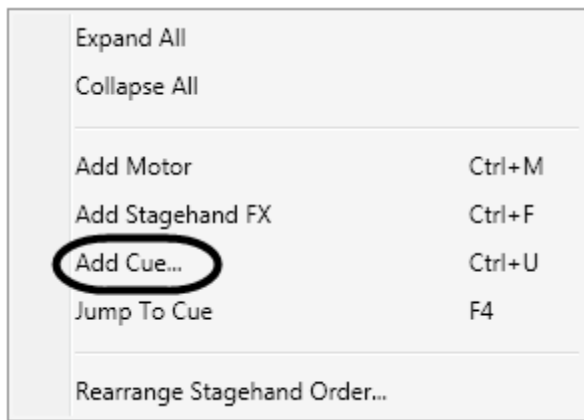

Figure 206
1. Right-click on a blank area in the **Cue Grid** and select **Add Cue** (Figure 206).